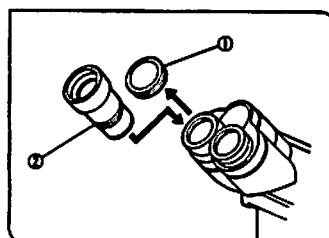

Fig. 17
12 Mounting the Eyepieces (Figs. 17, 18)
1. Remove the eyepiece dust caps ①.
2. Insert the eyepieces ② into the eyepiece sleeves as far as they will go. (Fig. 17)